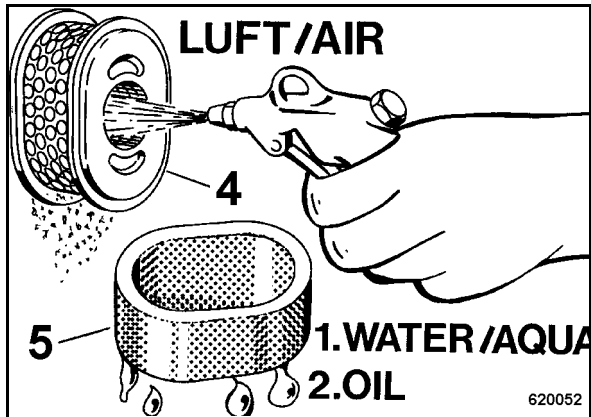

Fig. 47
- Clean the paper insert (4) (Fig. 47) carefully by light banging or blow it carefully out from inside to outside with dry, clean compressed air (max. 2 bar (29 psi)).
- Clean the foam rubber insert (5) in warm soapy water, rinse it and let it dry thoroughly.